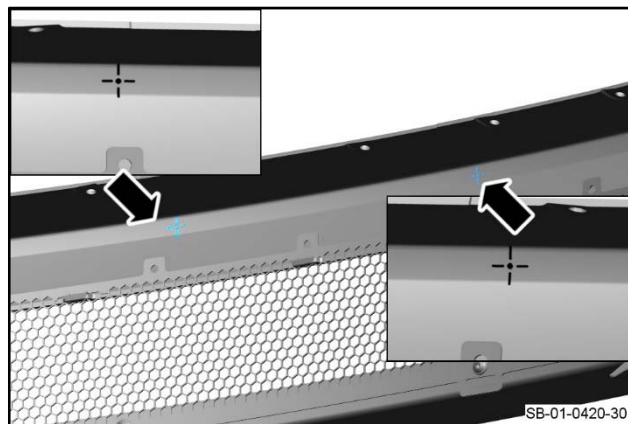

Figure 29
9. Use a drill with an applicable size drill bit to make two holes at the positions shown (refer to Figure 29)